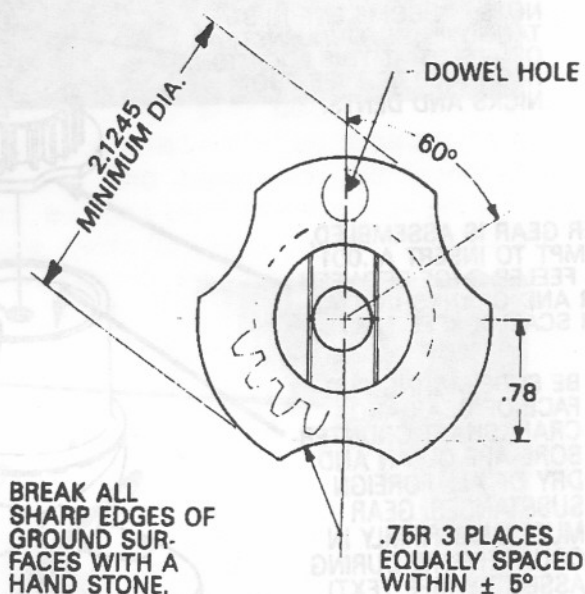

Figure 5. Details for Modification of Crankshaft Gear to Provide Means for Inspection
Crankshaft gears for applicable engines are now manufactured with three 3/4 inch radius scallops cut into the O.D. of the pilot flange. These enlarged scallops have been added to allow inspection of the gear and crankshaft assembly. Serviceable gears must be modified as shown in Figure 5, prior to being reassembled on the crankshaft, or a new gear that has been manufactured to this configuration must be installed. Before modifying the gear, measure the diameter of the
SCALLOPS (SEE FIGURE 5).
(5) Verify that the crankshaft gear incorporates three .75 inch radius scallops on the flange as shown in Figure 5 of Textron Lycoming SB No. 475, Revision A, dated July 16, 1990. Assemble gear onto crankshaft using a new retaining bolt and lockplate and insure fit of mating parts as described in Section 6 and Figure 6 of the Textron Lycoming Service Bulletin No. 475, Revision A, dated July 16, 1990.